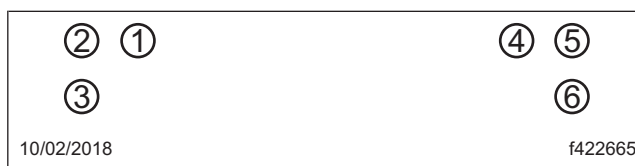

Fig. 3, Tightening Pattern, Bendix Axial Caliper
- 10.1 Start on one side of the caliper and tighten all three bolts 40 ± 20 lbf·ft (54 ± 27 N·m), beginning with the inner-most bolt and moving to the outer-most bolt. Then tighten the three bolts on the other side of the caliper 40 ± 20 lbf·ft (54 ± 27 N·m), beginning with the inner-most bolt and moving to the outer-most bolt. See Fig. 3.